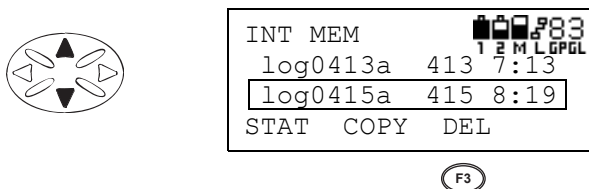

Figure 3-105. Scroll through Files to Select and Press F3 to Delete
3. Press the **up/down cursor key** to scroll through the files then press **F3 (DEL)** to delete (Figure 3-105).